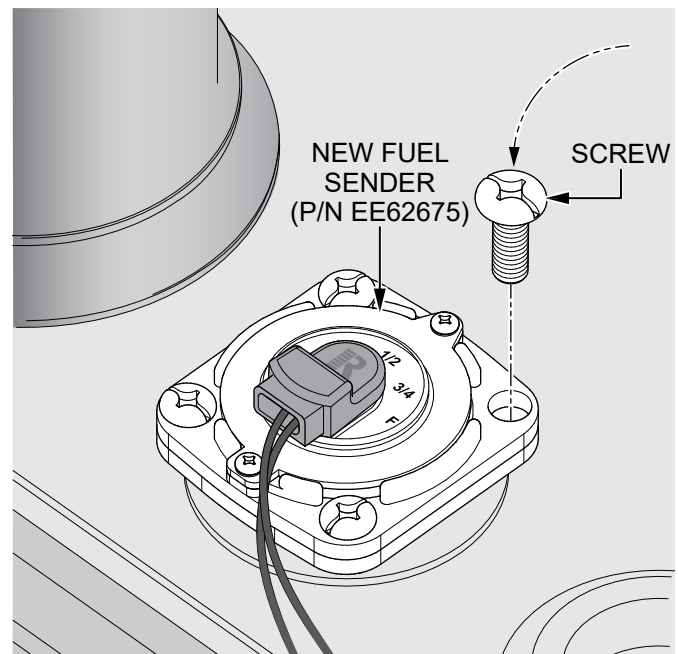

Figure 7. Install Fuel Sender Hardware
7. Secure the **new fuel sender (P/N EE62675)** to the fuel tank using the **four screws** that were removed during step #4. See Figure 7.